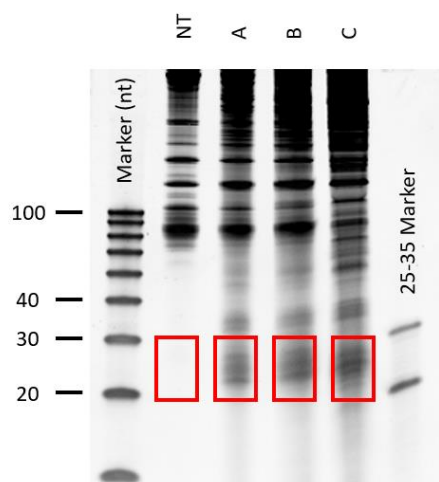

Fig.1 Example of RNA extracted after nuclease titration run on 15% TBE-Urea gel. In the red square the sizes between 25-35 nt.
As depicted in the figure above, not digested sample does not present the typical enrichment of fragments at 25-35 nt (red square in Fig.1). Under-digested sample (A) does not display a high enrichment of RPFs, while the over-digested sample (C) shows a smear of signal on the gel. In this example, the quantity of Nux used in sample B (AU x 5) needs to be utilized for all the reactions.